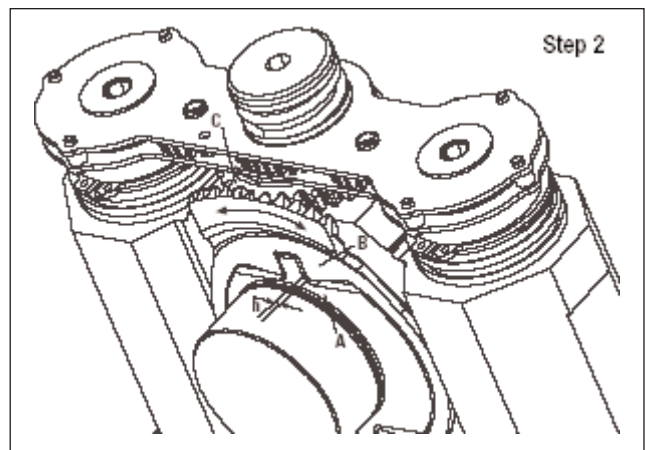

Fig 1.6
- c) Eccentric shaft A begins turning within the gear plate segment, eliminating clearance "h" between the adjuster gear section slot B and the shaft integral tab sides (Fig. 1.6).
- d) Adjuster gear segment begins to turn causing the rotation of bevel gear adjuster C (Fig. 1.6).